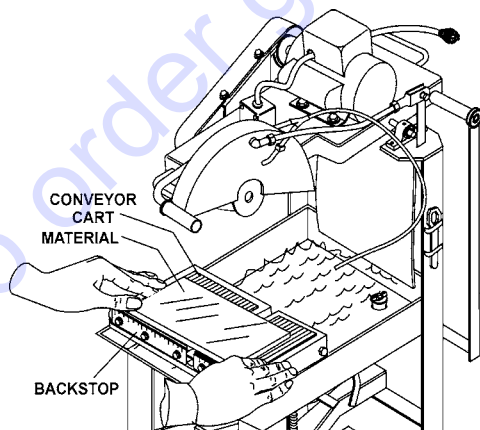

Figure 25. Material Placement
2. Place the material to be cut (Figure 25) on the conveyor cart against the backstop.
1. Place the material to be cut (Figure 25) on the conveyor cart against the backstop.